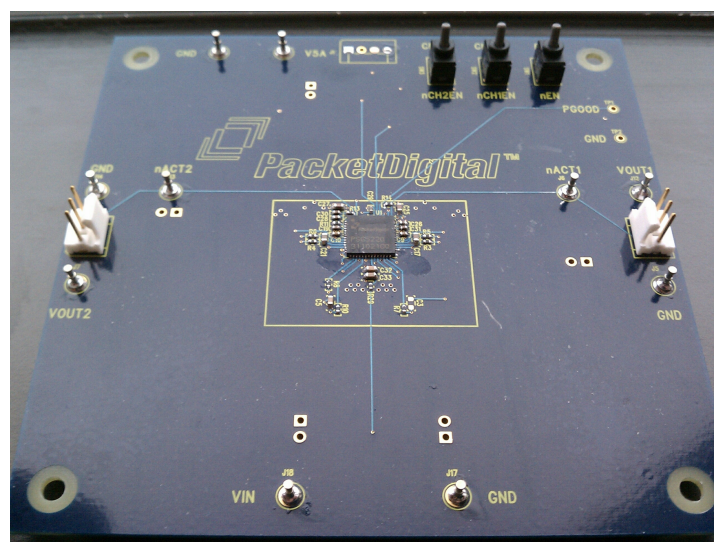

Figure 1: PSG5220 Evaluation Board
The advanced SATA power management unit evaluation kit is a single board module (pictured below in Figure 1) for the evaluation and integration of the PSG5220 and PSG5210 into designs. The evaluation kit includes the PSG5220 IC and a bill of materials for required operation.
- PSG5220-EK Printed Circuit Board (see Figure 1 on page 1)